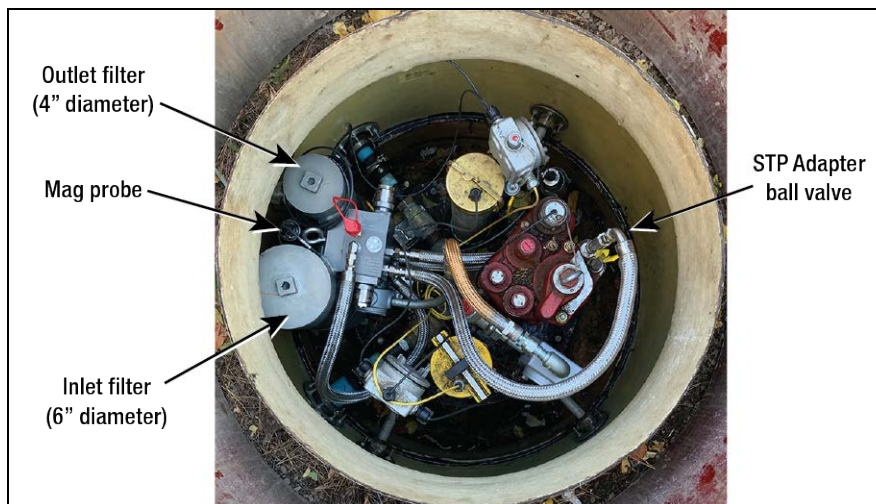

Figure 1. HydrX Sump
1. Close the STP Adapter ball valve to isolate the Fuel Conditioner unit from the pump (see Figure 1).
15. Re-open the STP Adapter ball valve (see Figure 1).